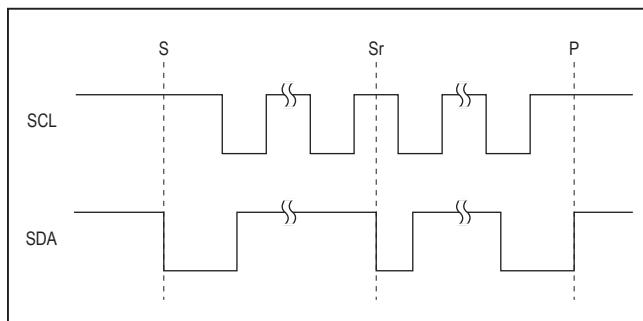

Figure 6. I²C START, STOP and REPEATED START Conditions
When writing to the MAX20335 using I²C, the master sends a START condition (S) followed by the MAX20335 I²C address. After the address, the master sends the register address of the register that is to be programmed. The master then ends communication by issuing a STOP condition (P) to relinquish control of the bus, or a REPEATED START condition (Sr) to communicate to another I²C slave. See Figure 6.